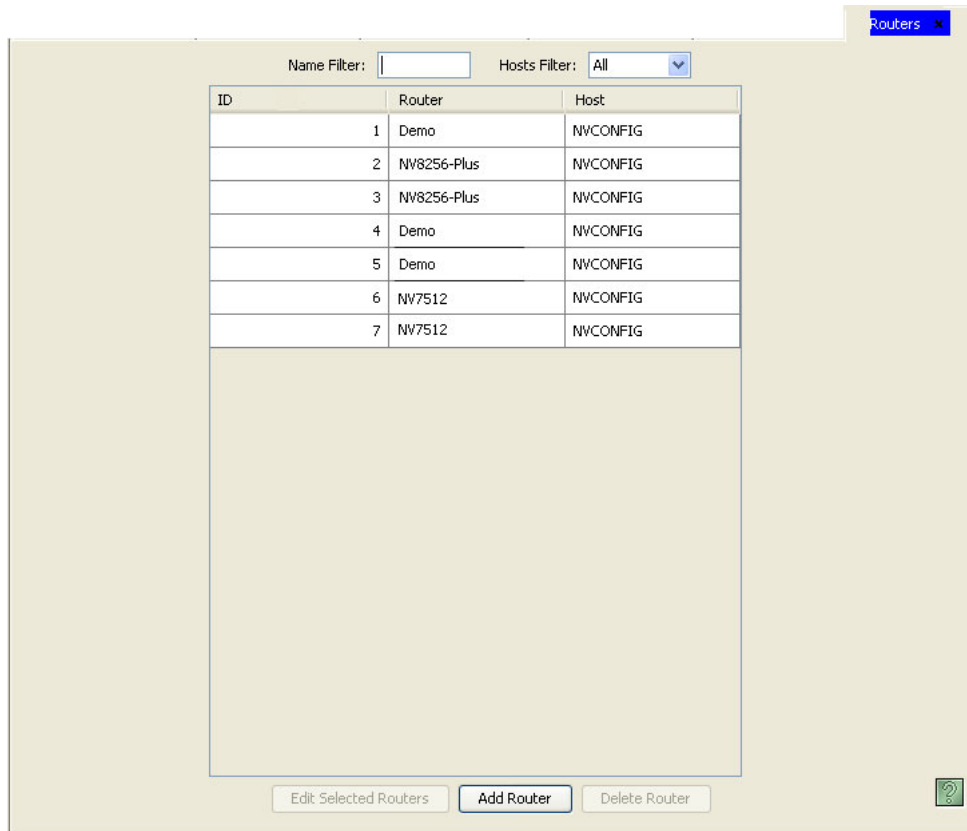

Figure 7-35. Routers Page
- 2 From the Navigation area, select the 'Configuration' pane and then 'Routers'. The 'Routers' page displays, as shown in Figure 7-35.